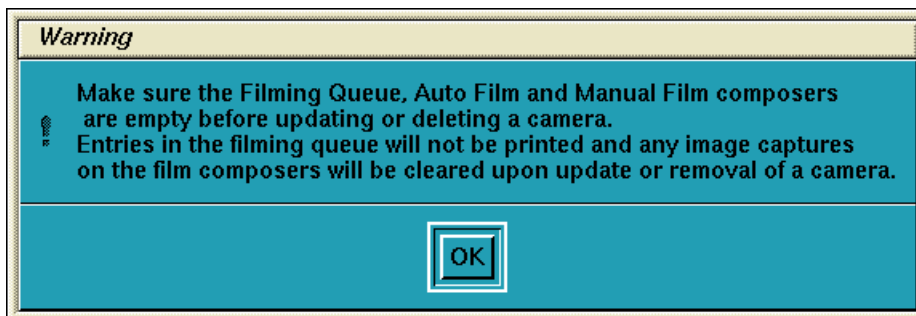
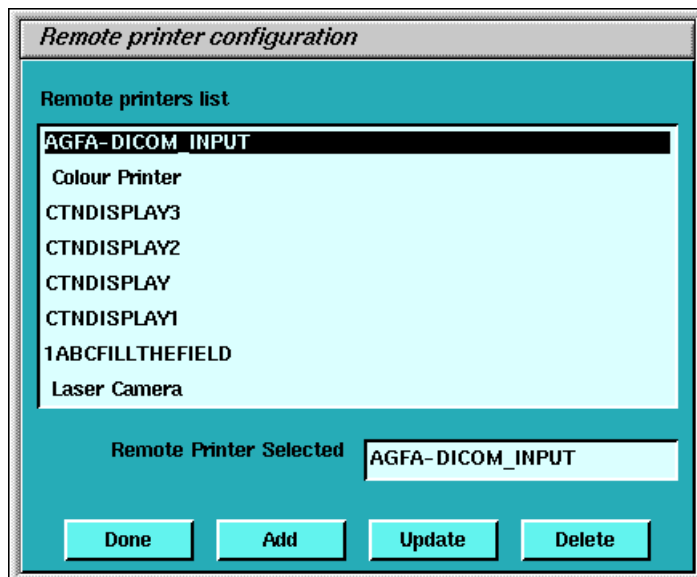

Figure 4-1 Warning Screen
Figure 4-2 Printer Configuration GUI
- 3.) The Graphical User Interface displayed shows a list of cameras installed (See Figure 4-2). First, you must click OK in the warning message box. See Figure 4-1.
- a.) To add a new camera, click the ADD button (See Figure 4-2).